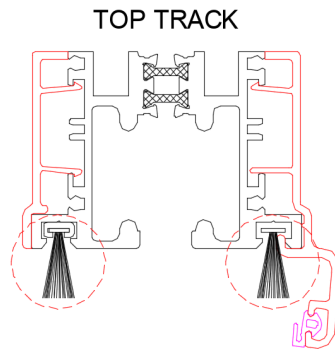

**FIG 3.**
- d) Caulk the last 2" of the outside groove & 2" from ends of track where jamb will sit to ensure no air infiltration of both top and bottom tracks before inserting jambs, as shown in FIG 3.
- e) Each jamb has an insert top and bottom to ensure panels are installed plum and square with tracks and are placed to the exterior edge. (Shown in red FIG 3.)